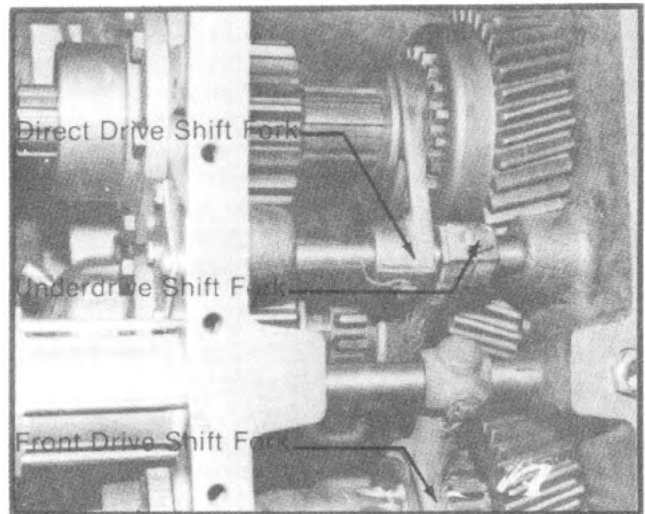

Fig. 28 Single Rear Output Transfer Case Shift Fork Positions
1. Place each shift fork on its proper clutch gear. The position of the *upper* and *intermediate shaft* clutch gear forks will differ according to transfer case style: The single rear output case shift forks are assembled as follows: (refer to fig. 28).